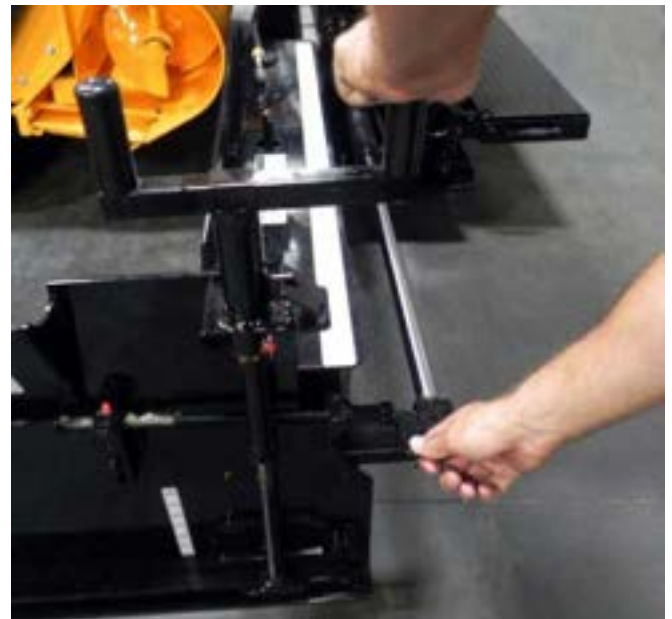

Figure 4-50. Endgate Tilt Screw Adjustment
6. Turn the tilt screw so the front of the endgate tilts down slightly when the screed is lifted. This will allow the endgate to set itself to the grade. **(Figure 4-50)**